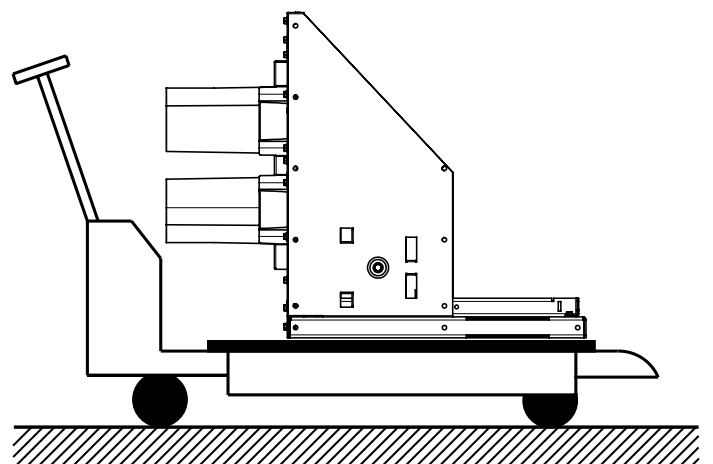

Fig. 3
After unpacking it, lift the module by means of a crane, using the special eyebolts (1) (fig. 3) and the ropes fitted with safety spring catches.